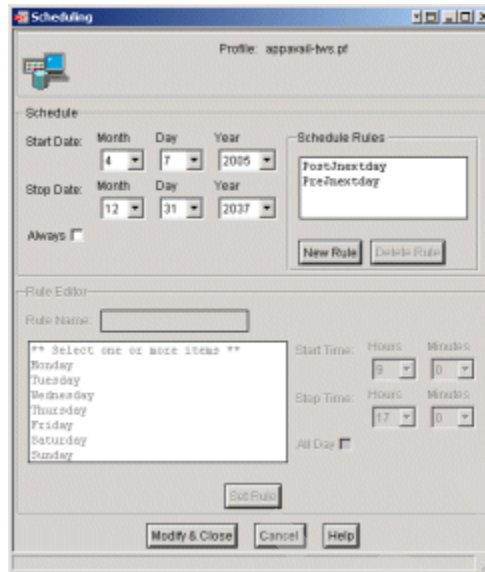

Figure 9-93 Configured scheduling rules for Tivoli Monitoring resource model
15. Select **Set Rule**. The Scheduling window displays both rules in the Schedule Rules list as shown in Figure 9-93 on page 502.